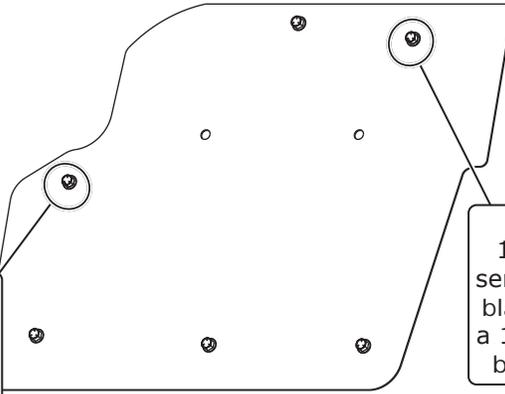

Figure 3
4. Install a 1/4-20 x 1" and 1/4-20 x 3/4" serrated flange black bolt and (2) 1/4" pushnut bolt retainers in the firewall cover plate (See Figure 3, below).
6. Install the firewall cover onto the firewall. Secure it from the passenger compartment using (4) 1/4" USS flat washers and (4) 1/4-20 hex nuts with star washers.